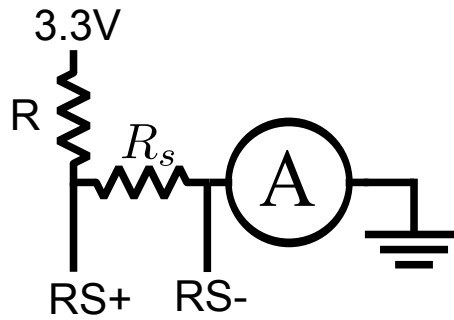

Figure 16.5: Current sensor calibration circuit.
3. Attach a resistor and the ammeter to the circuit, as per Fig. 16.5.